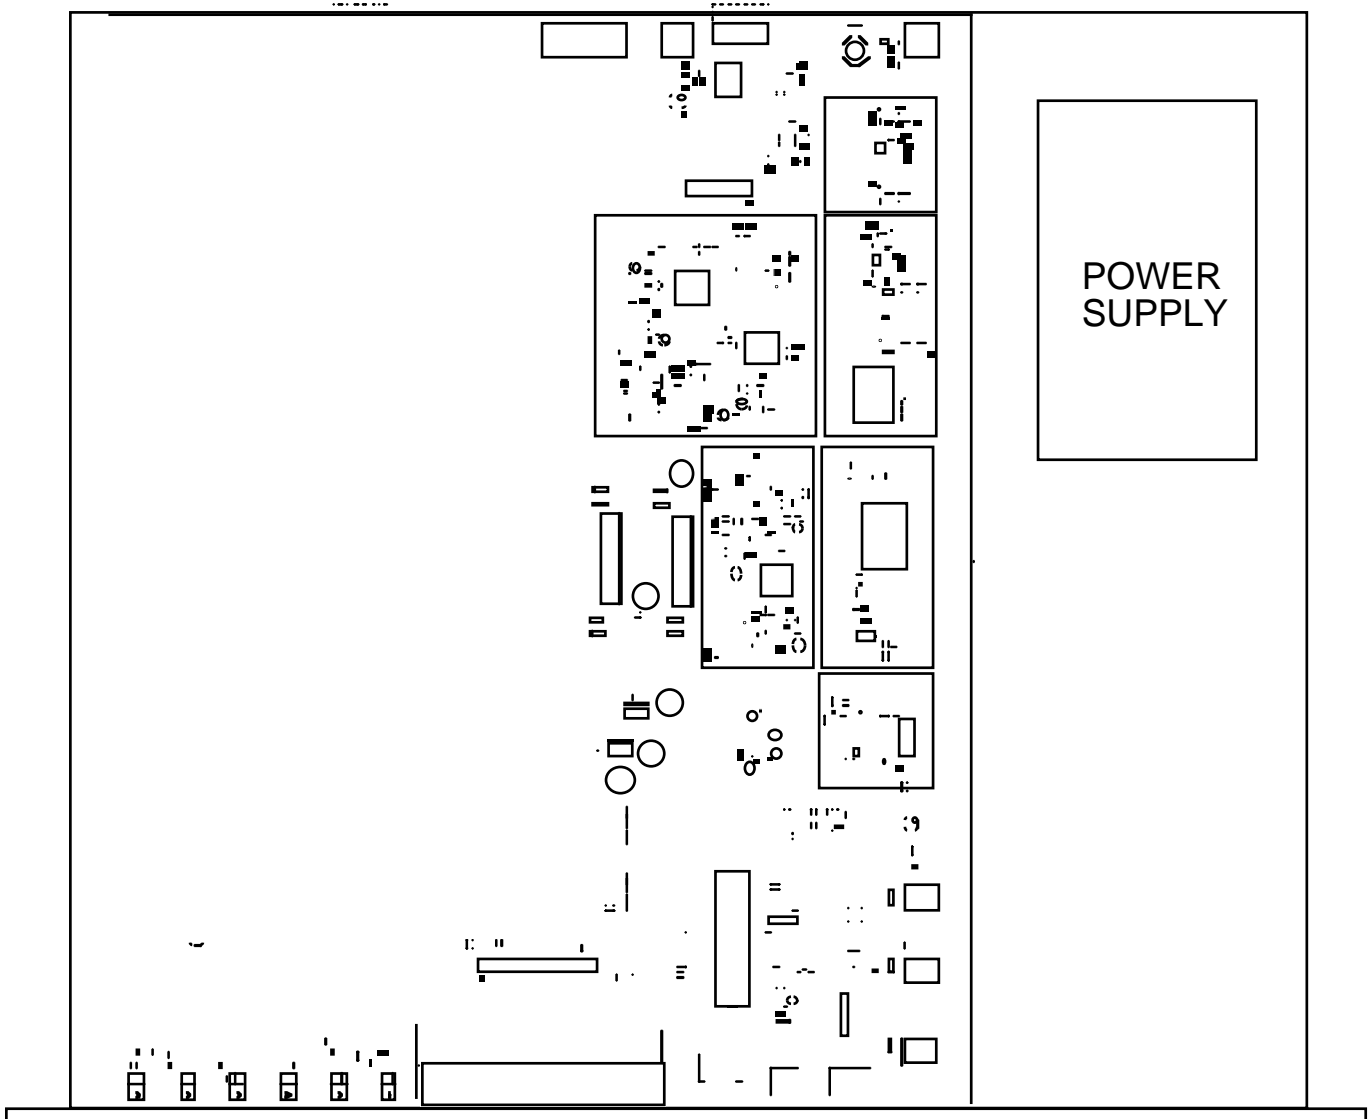

FIGURE 2.1 2016-02-160 Mechanical Assembly
The 2016-02-160 consists of one RF/Controller PCB housed in a 1 RU (1 3/4 inch high) by 16 inch deep chassis. A switching, ± 12 , +24, +5 VDC power supply provides power for the assemblies. The 2016-02-160 can be secured to a rack using the 4 holes on the front panel. Figure 2.1 shows how the 2016-02-160 is assembled.
7. Option -L only - To insert LNB +24 VDC on the RF center pin install 0.5A fast blo fuse in F1 and check that DS8 lights yellow (Figure 2.1)